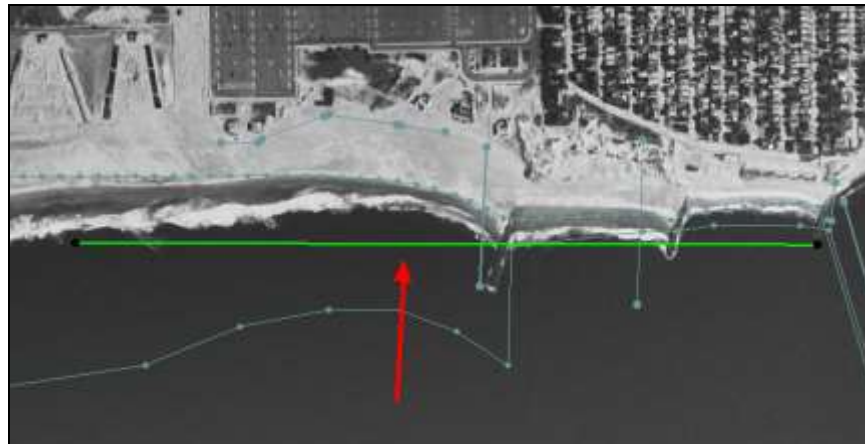

Figure 6 Beach fill arc at Jones Inlet
2. Using the **Select Feature Arc**  tool, double-click the beach fill arc (Figure 6) to bring up the *GenCade Arc Attributes* dialog.